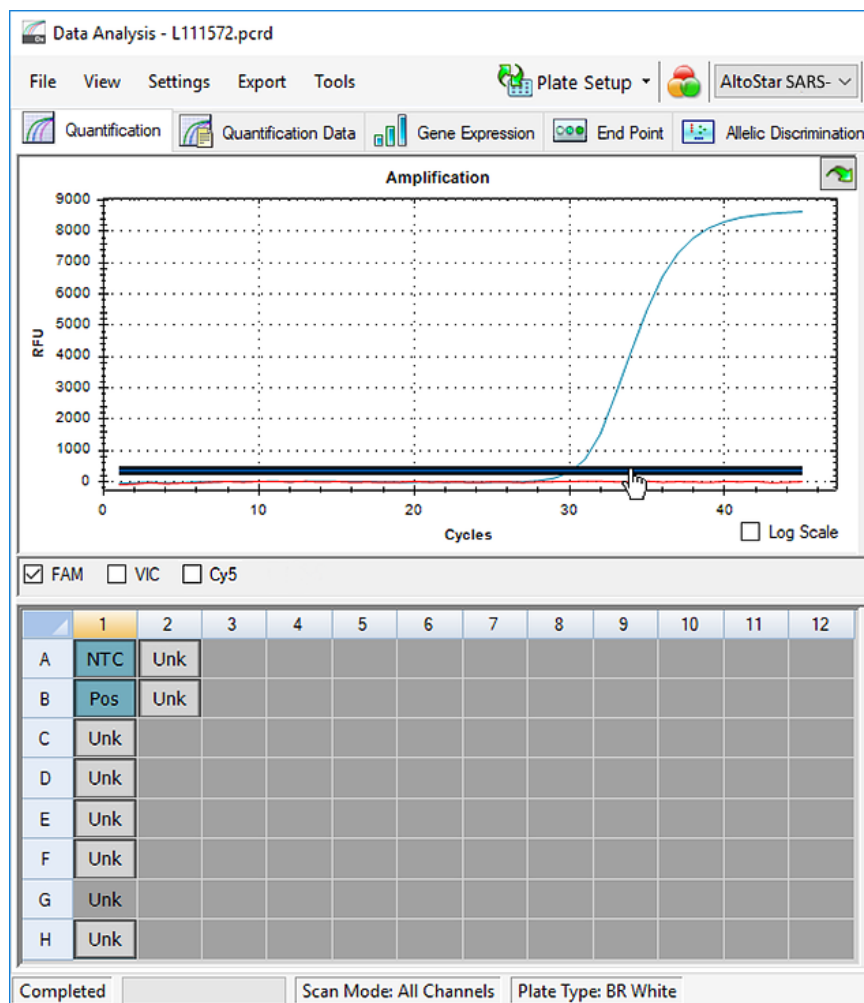

Figure 10: Data Analysis window: setting the FAM™ threshold
5. At the left side of the Data Analysis window untick the **VIC** checkbox and tick the **FAM** checkbox for the detection channel of E gene (see figure 10).
6. Select only the wells containing the NTC and the PC in the plate view of the Data Analysis window (see figure 10).
7. Drag the threshold well above the signal of the NTC into the exponential area of the PC signal (see figure 10).